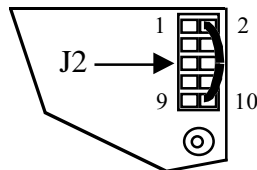

Figure 8
- Insert this wire into pins 2 and 10 of J2, as shown in Figure 8. The pins on J2 are counted from left to right and top to bottom as shown.